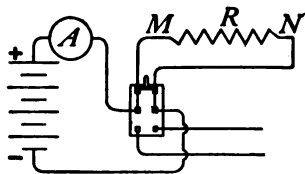

FIG. 268.
Fig. 268 represents a storage cell connected to charging and discharging circuits. The lower is the charging circuit. It contains a dynamo and a resistance (neither of which are shown in the figure) to control the current sent into the cell. The charging current enters the positive pole and leaves by the negative pole. The current produced by the cell, however, flows in the *oppo-*
290. Energy and Power of a Storage Cell.—In a storage cell, the electrical energy of the charging current is transformed into *chemical* energy by the action of electrolysis. It is this chemical energy that is transformed into the energy of the electric current when the cell is discharged. The *capacity* of storage cells is rated in "ampere hours," a 40 ampere hour cell being capable of producing a current of 1 ampere for 40 hours, or 5 amperes for 8 hours, etc. The production and extensive use of electric currents have made necessary accurate methods for measuring the *energy* and *power* of these currents. To illustrate how this is accomplished, let us imagine an electric circuit as represented in Fig. 268. Here four storage cells in series have an E.M.F. of 8 volts and in accordance with Ohm's law produce a current of 2 amperes through a resistance in the circuit of 4 ohms. Now the work done or energy expended by the current in passing through the resistance between the points *M* and *N* depends upon three factors (1) the E.M.F. or *potential difference*; (2) the *current intensity* and (3) the *time*. The energy is measured by their product. That is, *electrical energy* = *potential difference* $\times$ *current intensity* $\times$ *time*. This represents the electrical energy in *joules*, or
In the circuit represented in Fig. 268 the energy expended between the points *M* and *N* in 1 minute (60 seconds) is $8 \times 2 \times 60 = 960$ joules.